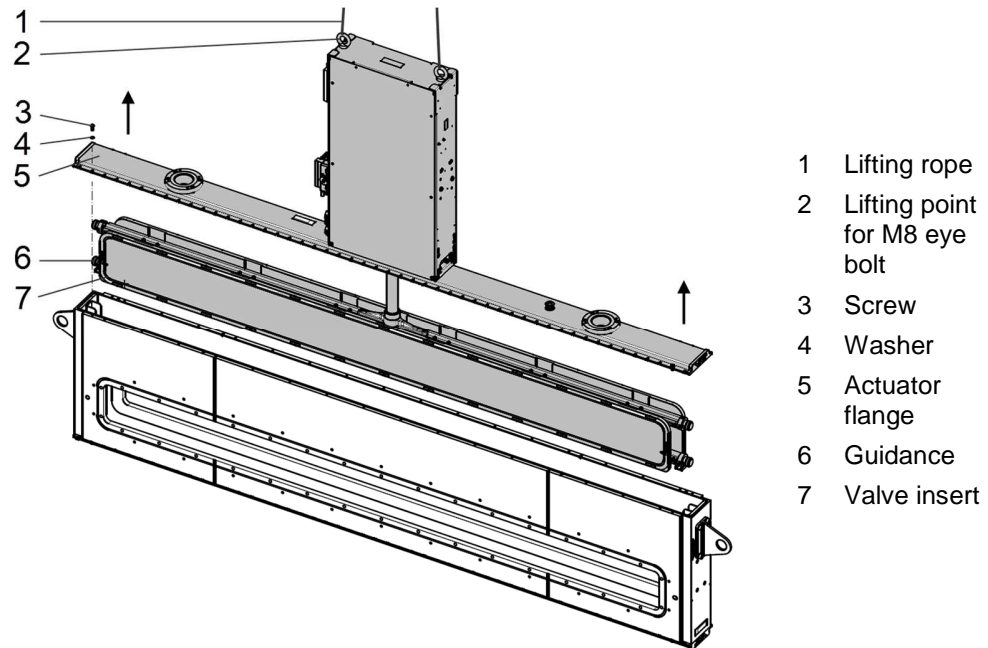

Figure 6-7
5. Fasten lifting ropes (1) at the lifting points (2); see «Figure 6-7» on page 36.
6. Remove screws (3) with an allen wrench size 5 from actuator flange (5); see «Figure 6-7» on page 36.
7. Lift valve insert (7) by using a crane; see «Figure 6-7».
13. Tighten screws (3) with a **torque of 9 Nm**; see «Figure 6-7» on page 36.